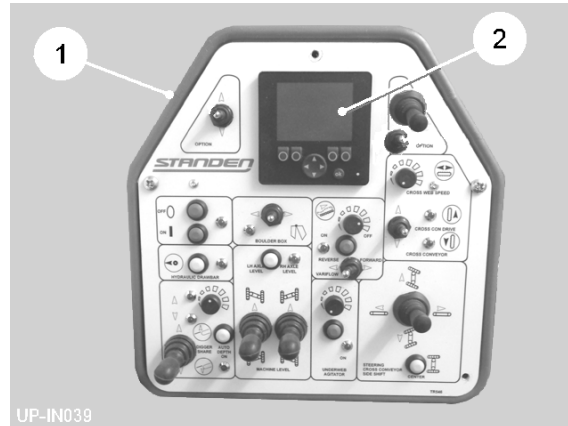

Fig 13
Control for the major functions of the Standen UniPlus are provided electronically by the switches mounted on the in-cab control box (item 1, fig 13) switching the valves on the machine via a CAN-Bus control system. The functions can be monitored from the control box display screen (item 2, fig 13). Setting and monitoring can be carried out by following the instructions in the CAN-Bus operating instructions.